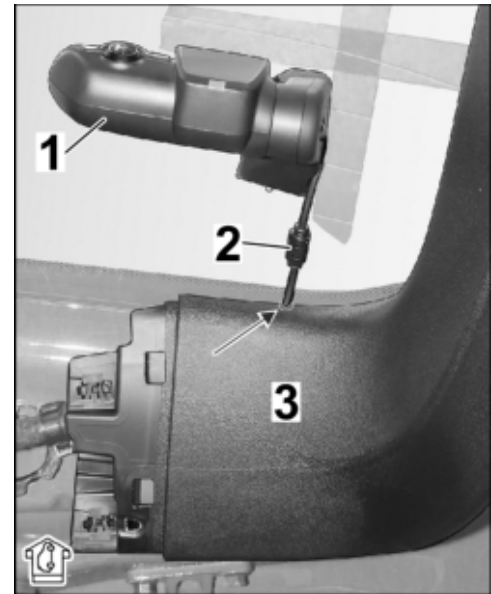

Figure 20 (example 9YA)
Check that there is sufficient space between trim and rear window for rear camera wiring harness. ⇒ *Figure 20 (example 9YA)*
4.1.2 If not: Mark line routing on trim panel. ⇒ *Figure 20 (example 9YA) -Arrow-*